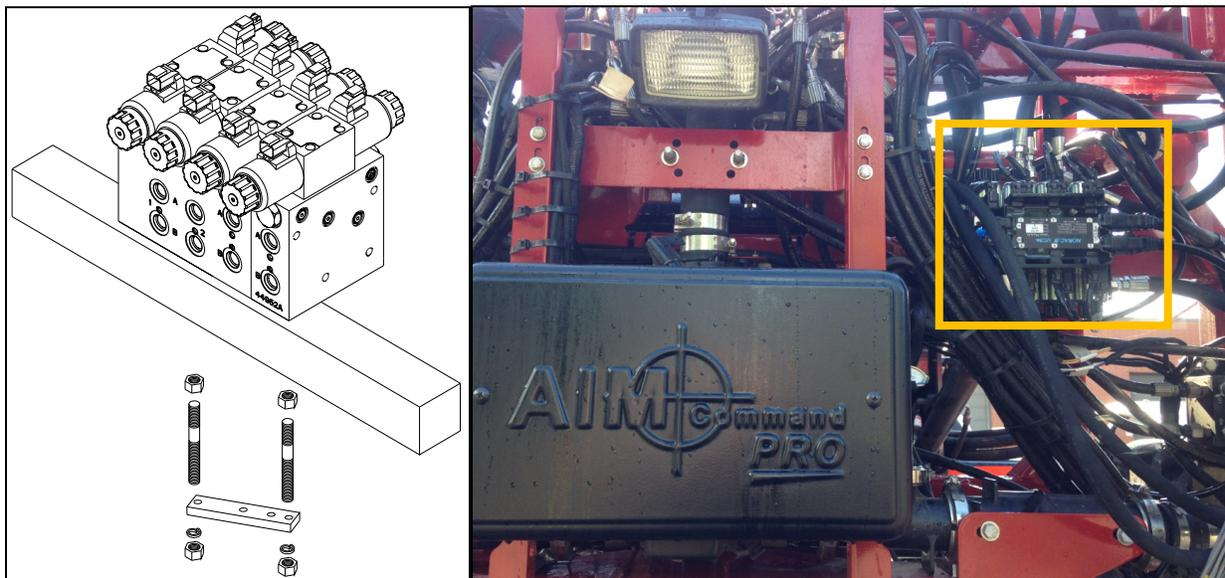

Figure 22: Valve Block Mounting
1. A suitable mounting location for the valve block is illustrated in **Figure 22**.